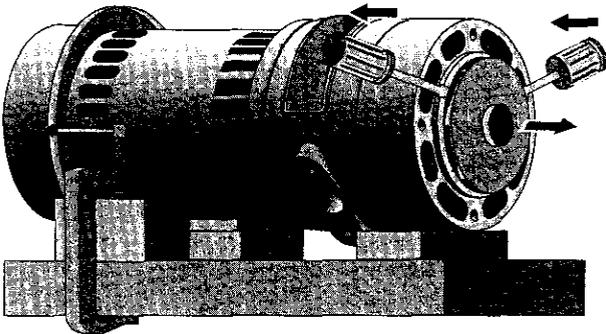

Figure 24
9. The impellers are keyed to the shaft and do not unscrew. Insert two screw drivers on opposite sides under the exposed impeller and pry the impeller off (Figure 24) to remove it.